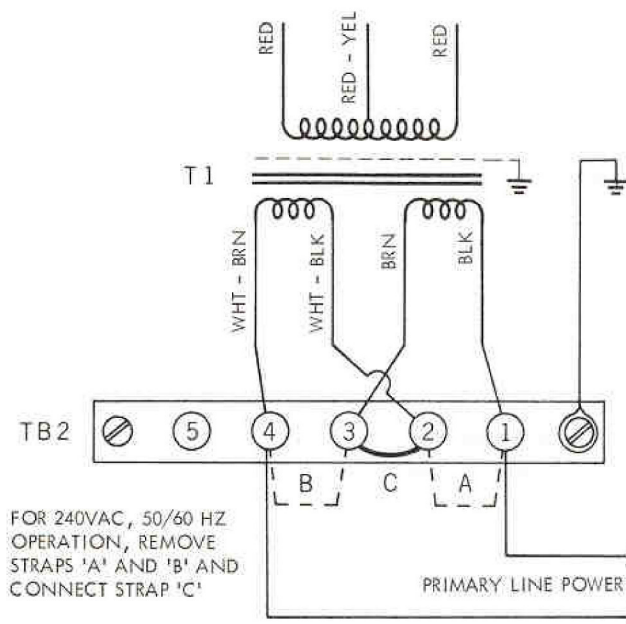

Figure 1. Converting to 240 VAC, 50/60 Hz Operation
- Step 5. Locate terminal board TB2 adjacent to power transformer. Remove strap 'A' connecting terminals 1 and 2, and remove strap 'B' connecting terminals 3 and 4 (see Figure 1). Connect strap 'C' to terminals 2 and 3.